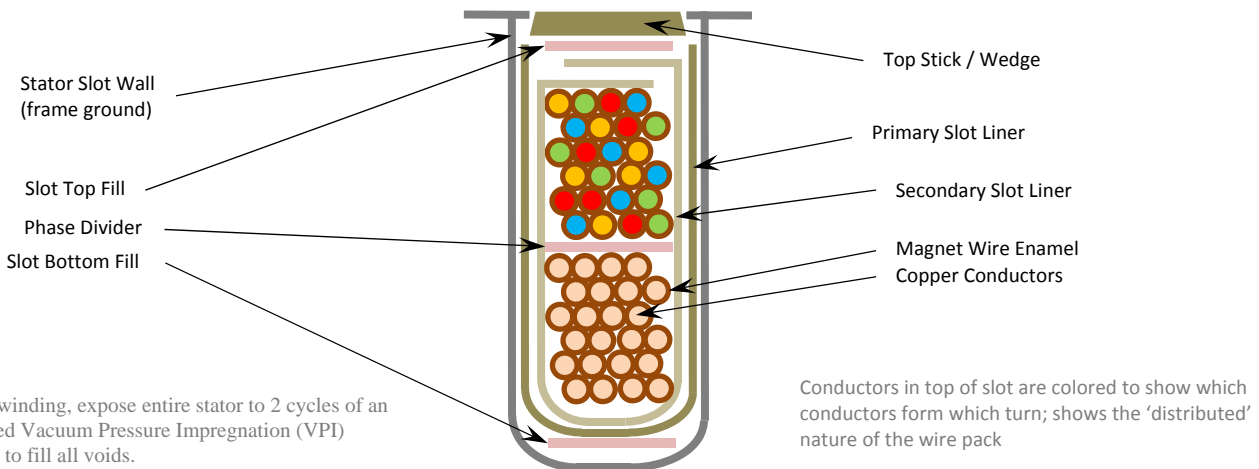

Figure 1 - Example of Wound Coil Slot Insulation
Figure 1 shows a cross-section of a typical slot packing and insulation arrangement for a severe duty 'mush' wound stator slot. In this image, the coil specification might indicate 6 strands (6-in-hand), 4 turns per coil. For our purposes, we will assume that the top coil and bottom coil belong to different phases.
- **Turn to Turn Short** :: As can be seen in Figure 1, within a given coil the first turn of the coil (colored red) and the last turn of the coil (colored green) could be located adjacent to each other in one or more places; further, any turn could be adjacent to any other turn at one or multiple locations along the length of the slot. When selecting enamel for the coil conductors, it is imperative that the designer consider this worst case slot fill to ensure that the electrical insulating properties of the enamel will withstand the voltages expected within a given coil. Within a given coil, if two conductors (perhaps one from the first turn and one from the last turn) were to become shorted, the net result would be that the coil in question would become completely ineffective at generating torque and would lower the impedance of that electrical branch. This would result in instability, electrical imbalance, and perhaps localized heating.